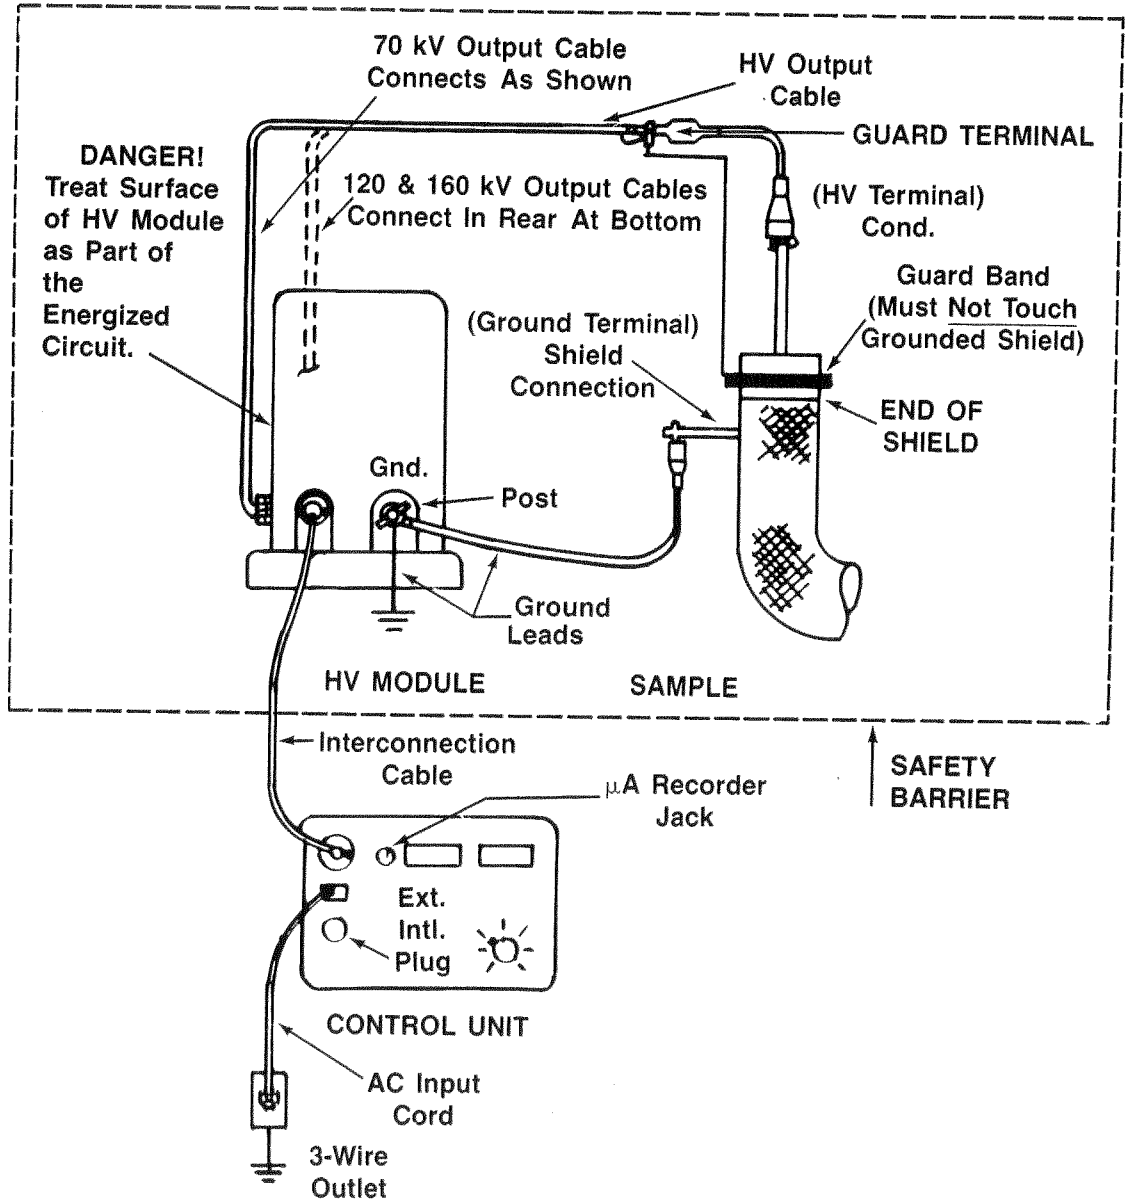

Figure 8: Test Setup for Typical Cable Tests (With Guarding).
5. Occasionally when measuring a test sample the leakage current of interest is masked by a parallel path. This is often encountered when measuring the leakage current of a cable. The value of current along the leakage path from the conductor over the insulation surface to ground may be greater than that within the major length of cable. Under such conditions, the guard feature of the test set is useful in excluding the undesired surface leakage current. This is accomplished by forming an intercepting electrode around the outer insulation surface between the conductor and the ground shield. The electrode may be made by tightly wrapping bare wire or a conductive band around the insulation surface close to ground. The electrode should then be connected to the guard terminal of the high-voltage output cable. Figure 8 illustrates this guarding. It should be noted that the guard circuit is only a few volts above ground. The exposed shield connection on the outboard end of the HV output cable is at guard potential and must not be grounded.